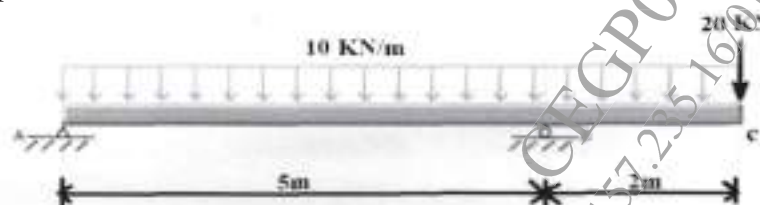

Fig 3.2
- b)** Draw SFD & BMD of the beam shown in figure 3.2, also locate the point of contraflexure from left end. [8]